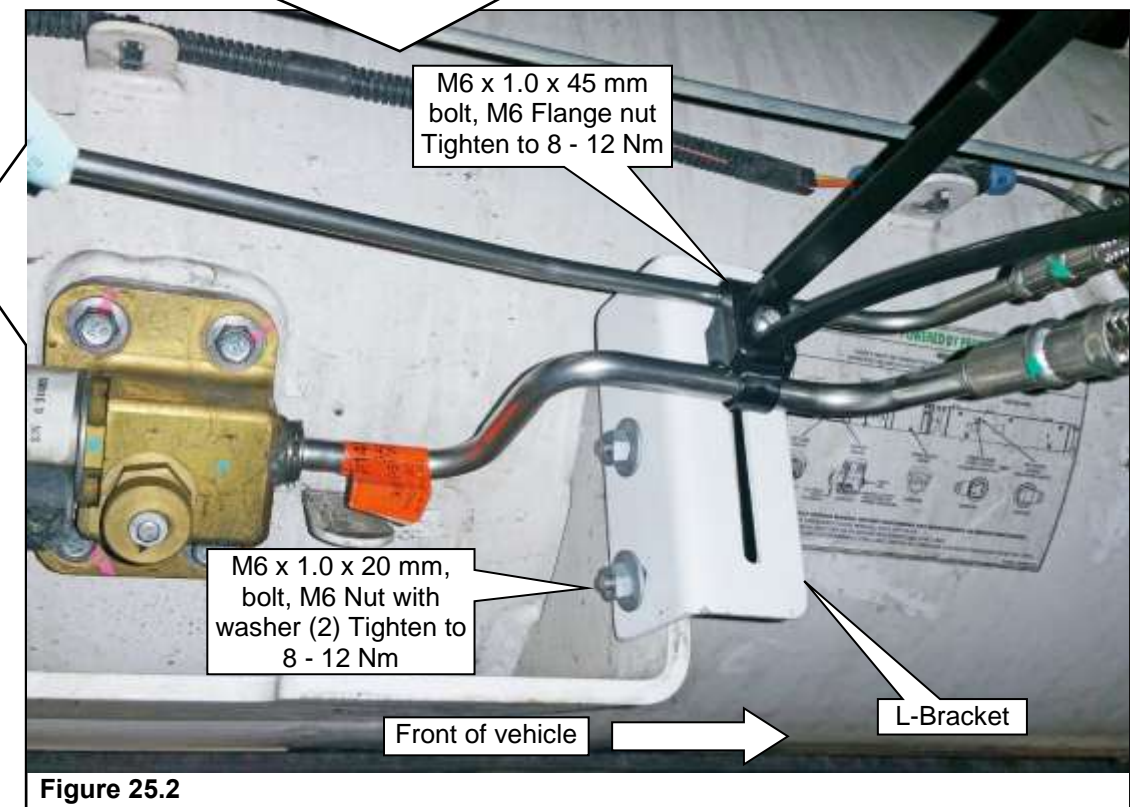

Figure 25.2
6. Position and loosely install the L-bracket to the fuel tank. **Figure 25.2.**